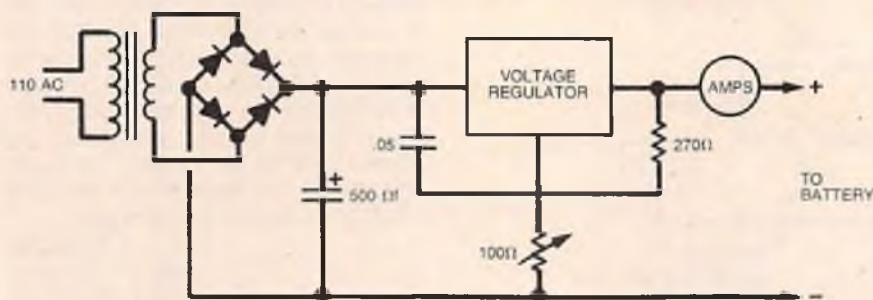

FIGURE 1
(1) I don't know of any such charger on the market but I believe a number of people are working on them. You could build your own and it would look something like Figure 1.